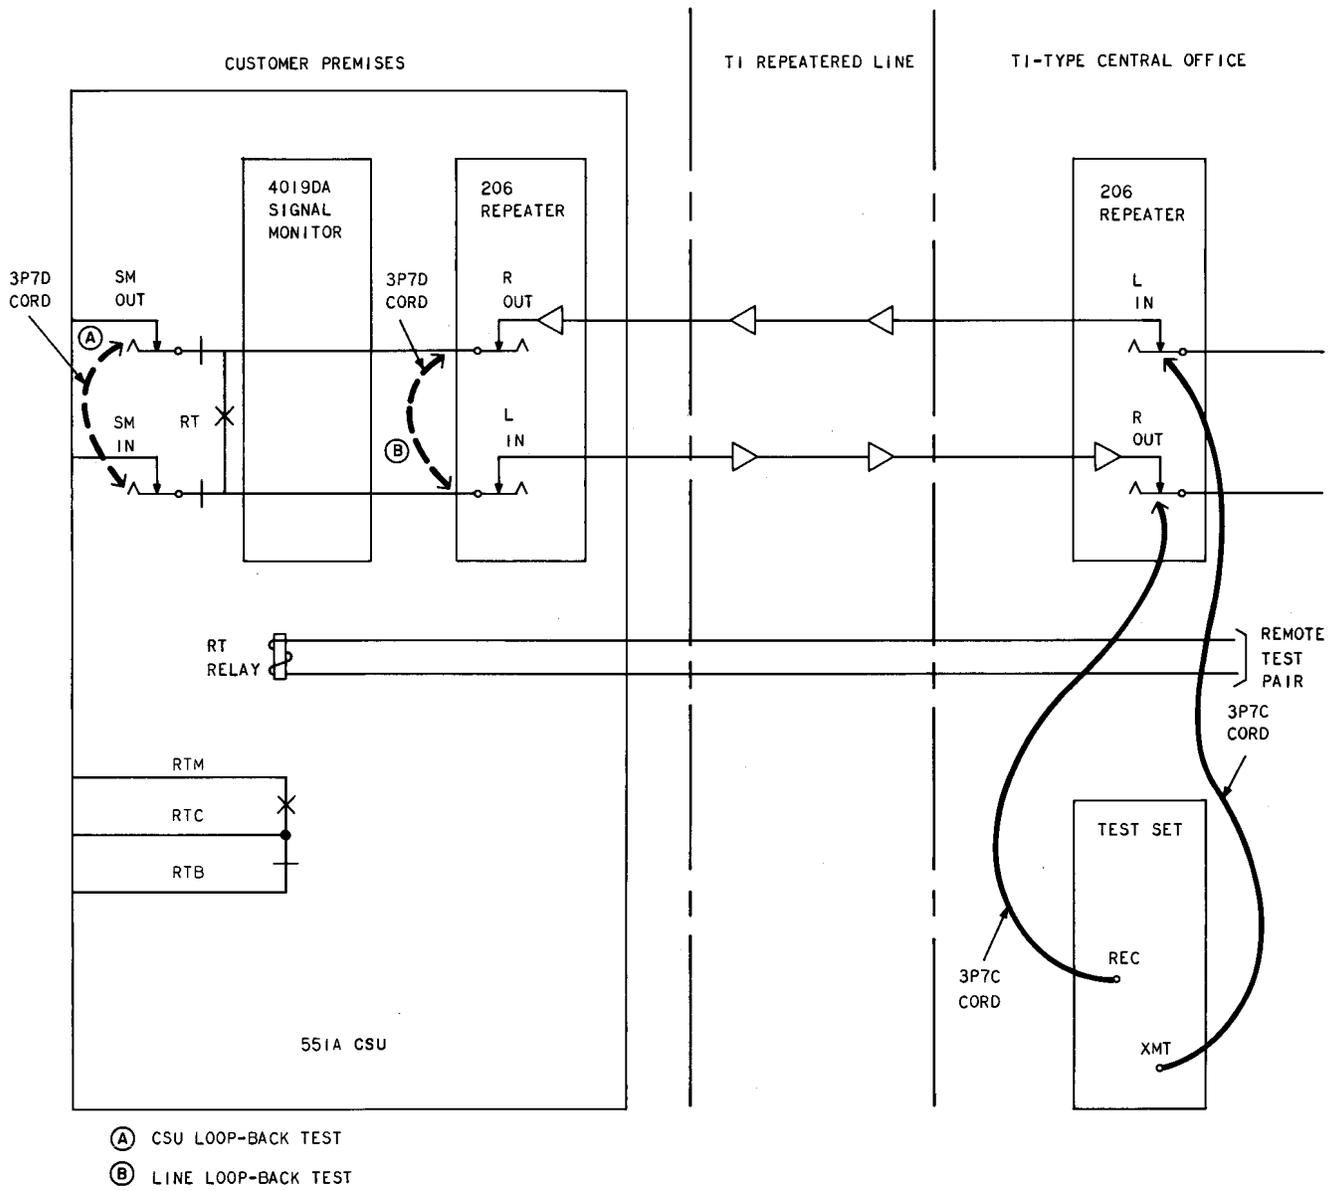

Fig. 1—Remote Loop-Back Test
2.01 The CSU loop-back test checks the repeater and signal monitor circuitry by remotely looping the transmit pair to the receive pair at the customer interface and transmitting test signals. The loop-back test may be established by operating the remote test relay or by manually patching the SM-IN jack to the SM-OUT jack on the CSU (Fig. 1).
Note: If the remote test feature is not provided, the CSU can be looped by patching the SM-IN jack to the SM-OUT jack using a 3P7D cord. (See Fig. 1.)
- 4 Patch one of the four DS1-OUTPUT jacks on the error rate test set to the L IN jack on the CO repeater. (See Fig. 1.)
- 5 Patch the R OUT jack on the CO repeater to the DS1-INPUT jack on the error rate test set. (See fig. 1.)
4.01 The line loop-back test checks the repeater and T1 repeatered line by looping the transmit pair to the receive pair at the repeater in the CSU and transmitting test signals. This test provides a method of isolating a trouble to the T1 line or CSU. The actual test is performed at the CO. The loop-back is made manually by patching the R OUT jack to the L IN jack on the repeater (B Fig. 1).
2	On the CSU repeater, strap R-OUT jack to L IN jack using a 3P7D cord (B Fig. 1).
4	Patch one of the four DS1-OUTPUT jacks on the error rate test set to the L IN jack on the CO repeater. (See Fig. 1.)
5	Patch the R OUT jack on the CO repeater to the DS1-INPUT jack on the error rate test set. (See Fig. 1.)